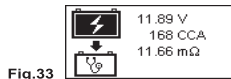
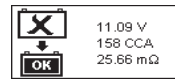

Fig.33
Fig.34
3. Check the battery ratings and enter it as described earlier and the results will show as per examples below: (Fig.33 and Fig.34)
Fig.33- Results shown [Recharge and test again], it indicated that the battery has to be fully charged first before repeating the test. Reason: State of Charge: 11.89V is too low.
Fig.34 - Results shown [To replace], this meant that the battery need to be replaced as its internal plate resistance [**Int. R**] 25.66 mΩ is higher than 15 mΩ limit.